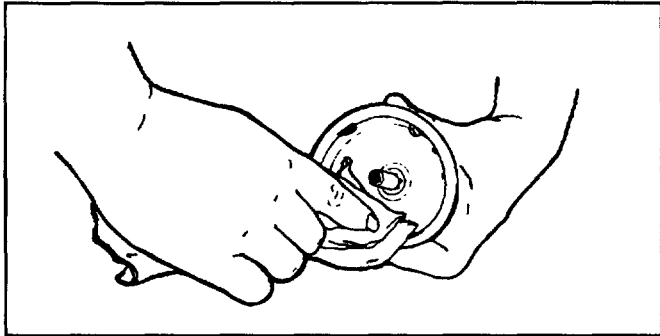

Fig. 13
4. Use a clean cloth to clean the inner surface of the outer spool (Fig. 13).